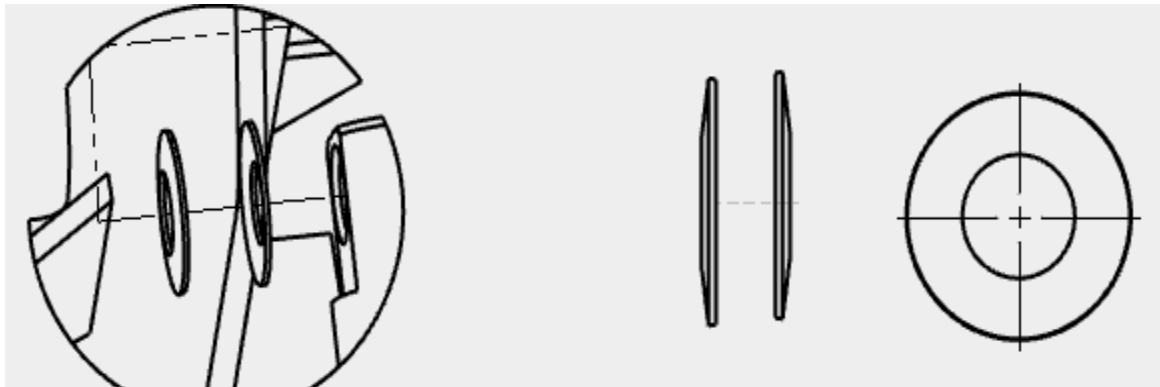

Figure 7.2
15) Upper pin requires two belleville washers installed cupped towards each other as shown in figure 7.2. Shim any additional gap with standard washers that were removed when original cylinder was removed.